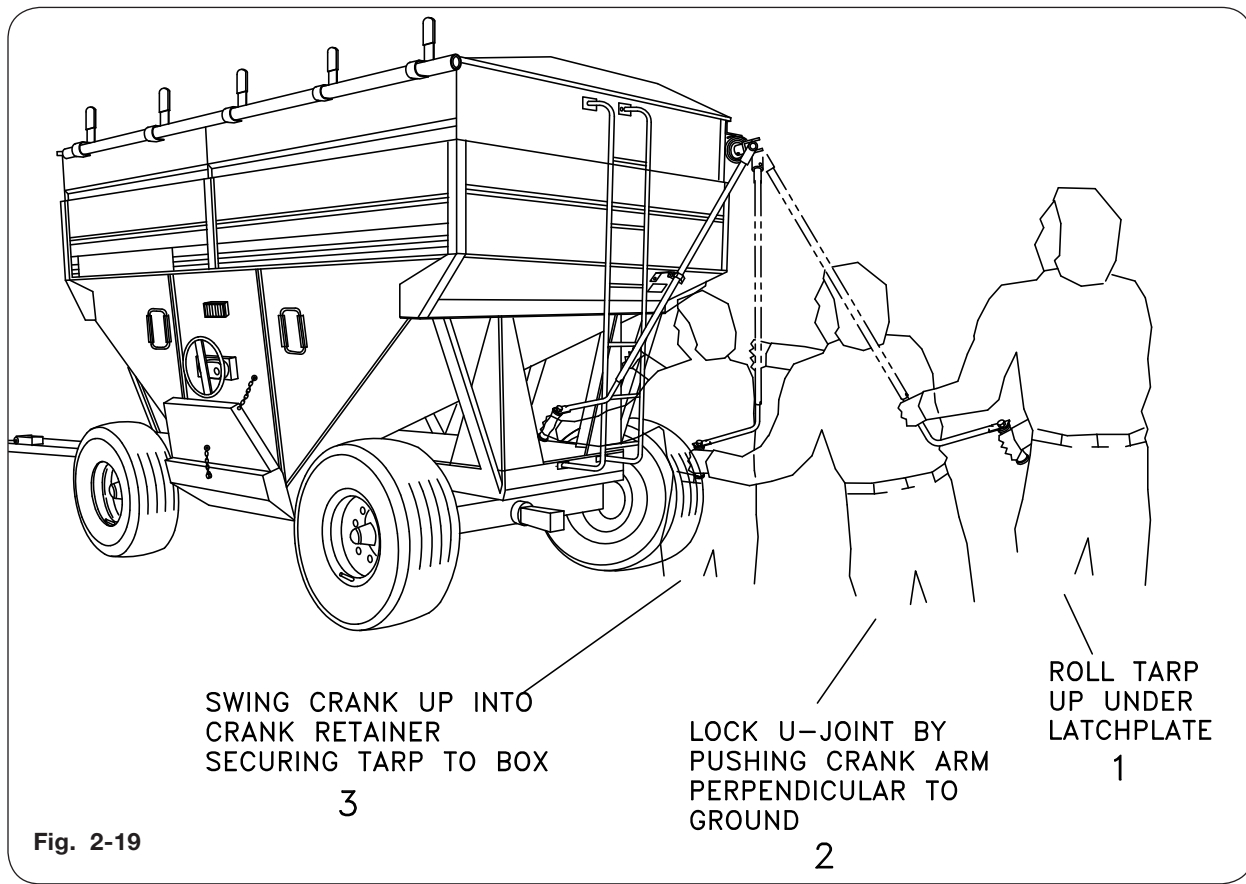

Fig. 2-19
16. Tighten tarp by holding the crank firmly with both hands and roll the main tarp tube counter-clockwise up under the latch plate. Next, bring the crank handle down perpendicular to the ground. Continue by lifting it up into the crank retainer. See Fig. 2-19.